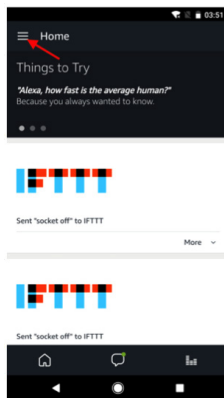
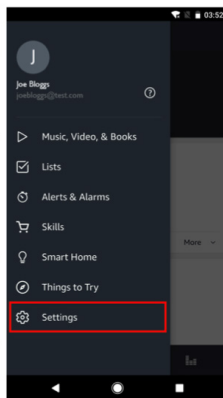
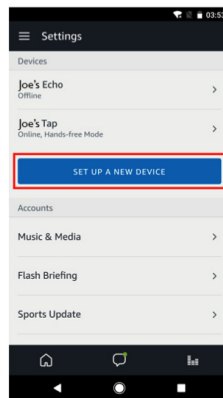

fig.3
fig.4
fig.5
- Select the Menu option in the top left corner (fig. 3), select 'Settings' (fig. 4) then tap 'SET UP A NEW DEVICE' (fig. 5).